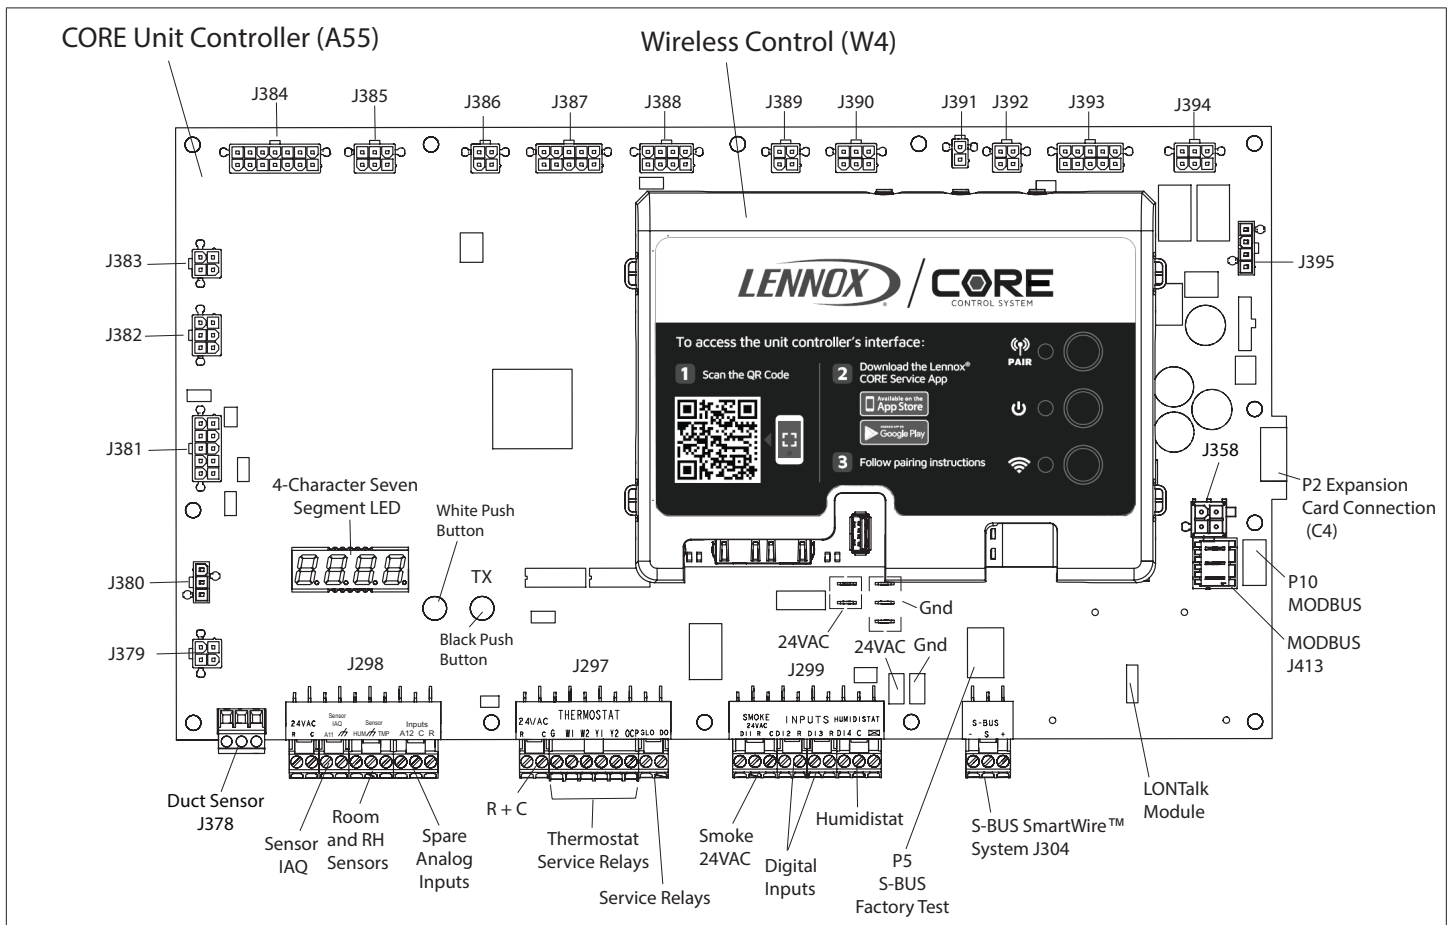

Figure 1. M4 Unit Controller (A55) and Expansion Port Locations
**NOTE:** "Figure 1. M4 Unit Controller (A55) and Expansion Port Locations" on page 5 shows the M4 unit controller components and the location of the add-on control expansion ports.